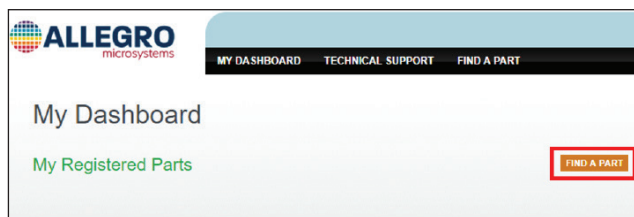

Figure 3: Find a Part Button Allows User to Register for Specific Devices
3. After registering and logging in to the software portal, the dashboard page is shown. Choose the “Find a Part” button highlighted in Figure 3.